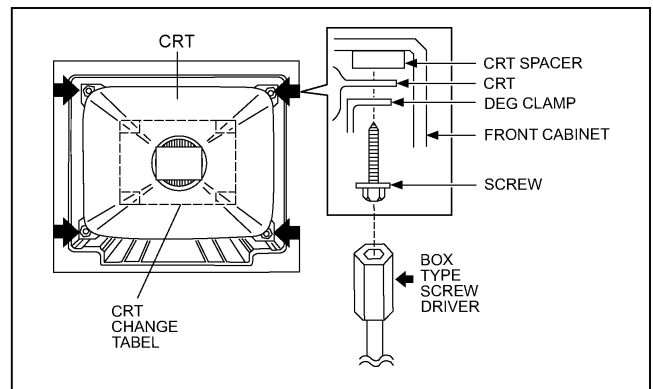

Fig. 5
3. Remove 4 screws marked by arrows with a box type screw driver as shown in Fig.5.